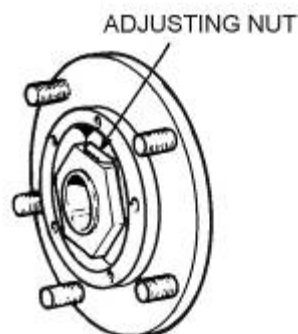

Figure 85 Hub End Float Adjustment
- g. Tighten the nut by hand until there is no end float (Figure 85).